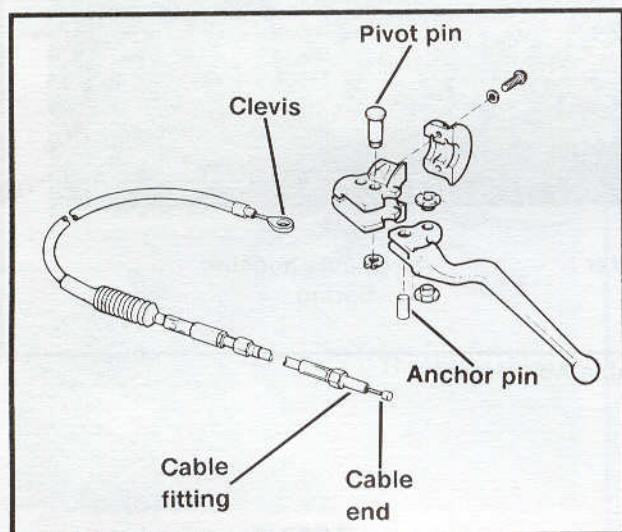

Figure 2-81. Clutch Cable Installation
4. See Figure 2-81. Remove hand lever pivot pin.